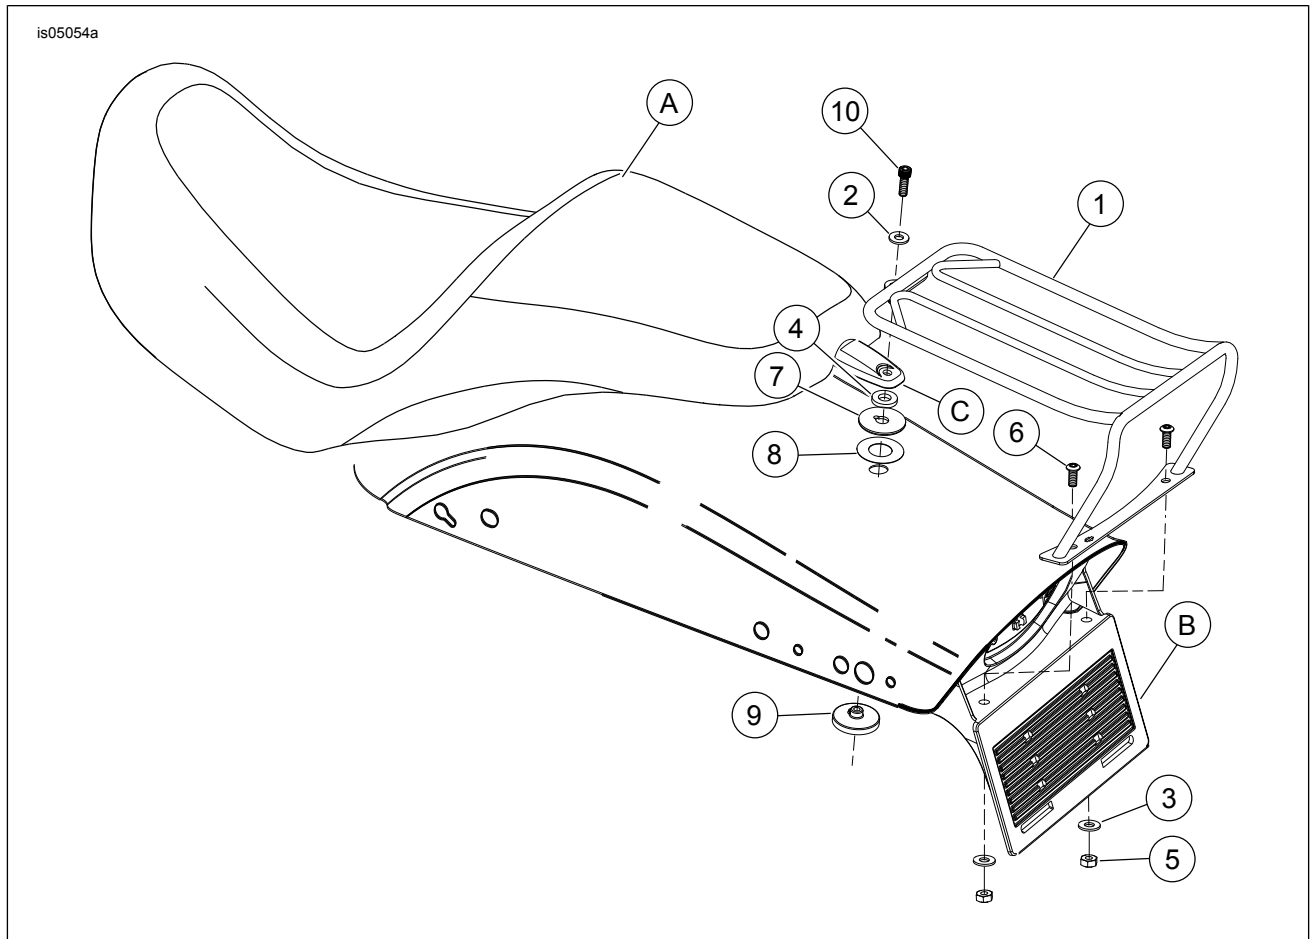

Figure 3. Service Parts: Bobtail Fender Rack
See Figure 3 and Table 1.
1. See Figure 3 and Table 1. Remove the adhesive backing from protective tape (8). Align and install the tape on the fender around the fender mounting hole.
2. Position the seat tab spacer (7) over the protective tape and align with the mounting hole. Install with the concave side of the seat tab spacer against the fender. Place seat tab (c) over seat tab spacer.